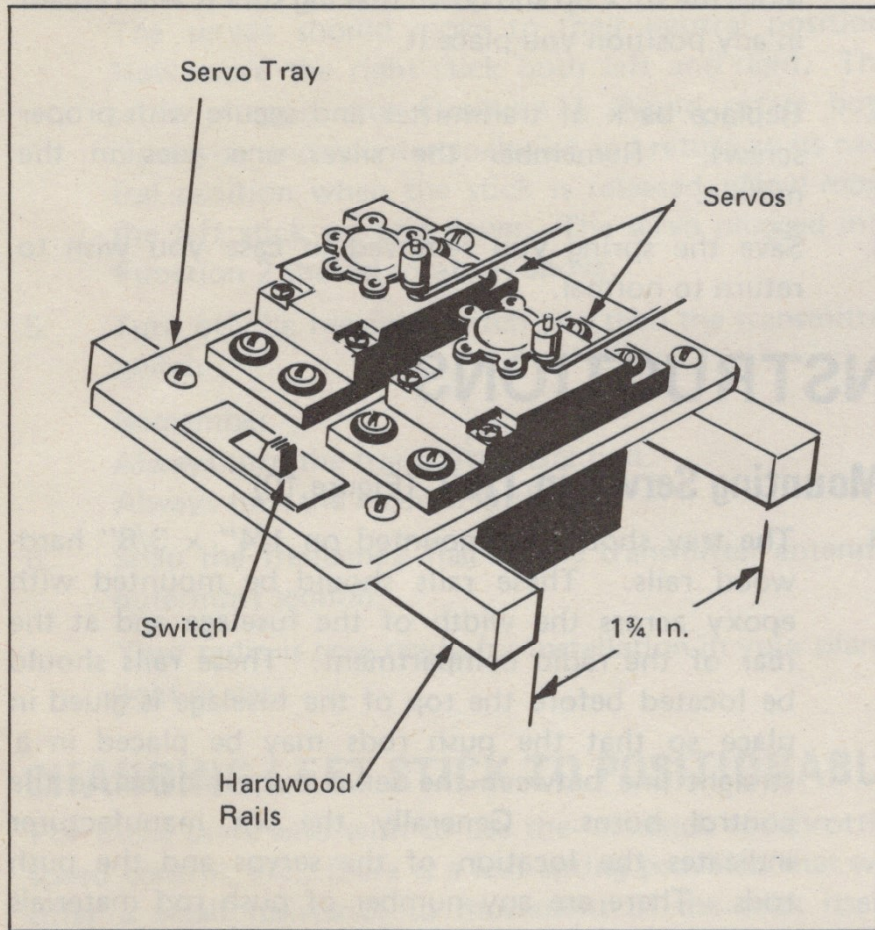

Figure 10.
Mounting Servos in Tray (Figure 10)
4. When using the servo tray the switch may be mounted internally at the space allotted for this as indicated in Figure 10. Some provision must be used for actuating this switch from outside the fuselage after the plane is put together and ready for flight. An actuator is available from your dealer (Cox/Sanwa part no. 80160).